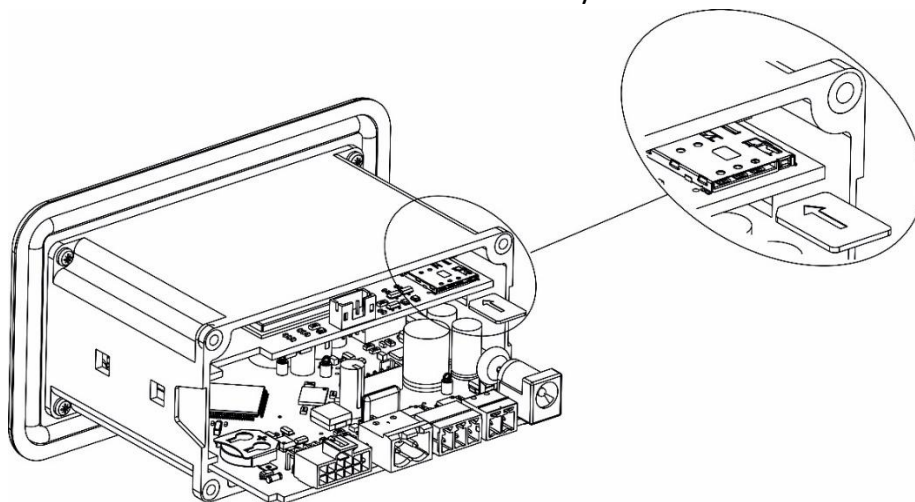

Figure 11 Insert Sim card
- Open the enclosure and gently push the SIM card into the designated slot, as shown in figure 11. Ensure the SIM card is inserted correctly.